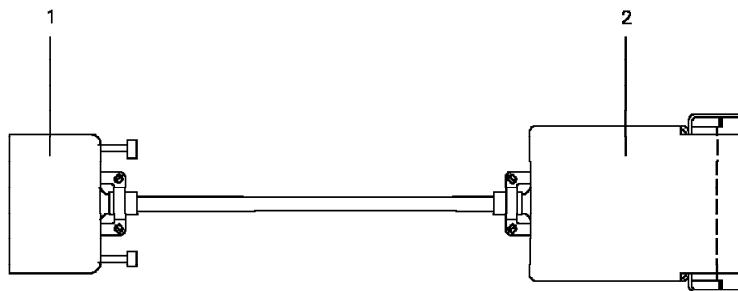

Figure 6-16. Adapter for ARC 3B (PN 58G5998)
- b. If you are connecting a **V.35 DTE (ARC 3B)** to a **French terminal**, connect one **adapter (PN 58G5998)** between the terminal and the cable (see Figure 6-16). Connect **connector 1** to the  **cable** and **connector 2** to the **terminal**.